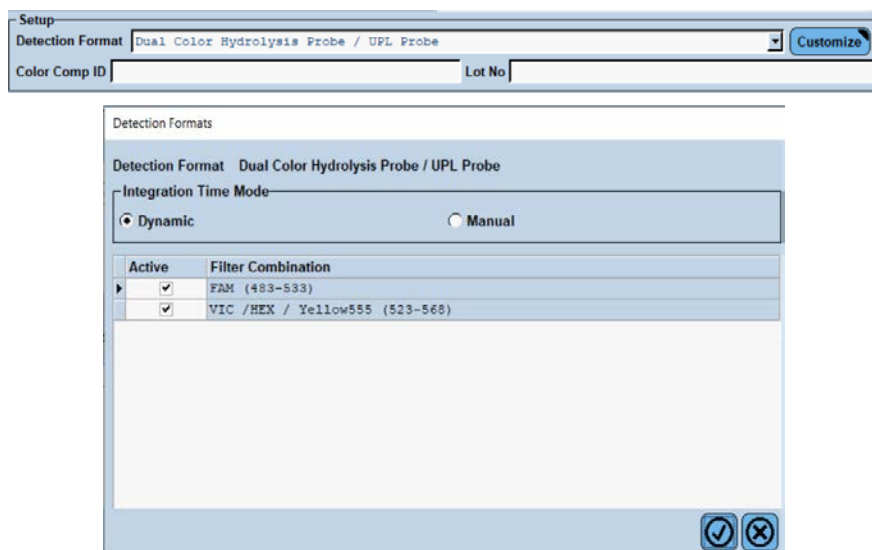

Figure 4. Detection Format setup using LightCycler 480 Software.
- In Detection Format, choose Dual Color Hydrolysis Probe/UPL Probe. And in the Customize window, choose FAM (483-533) and VIC/HEX/Yellow555 (523-568) as shown in Figure 4.